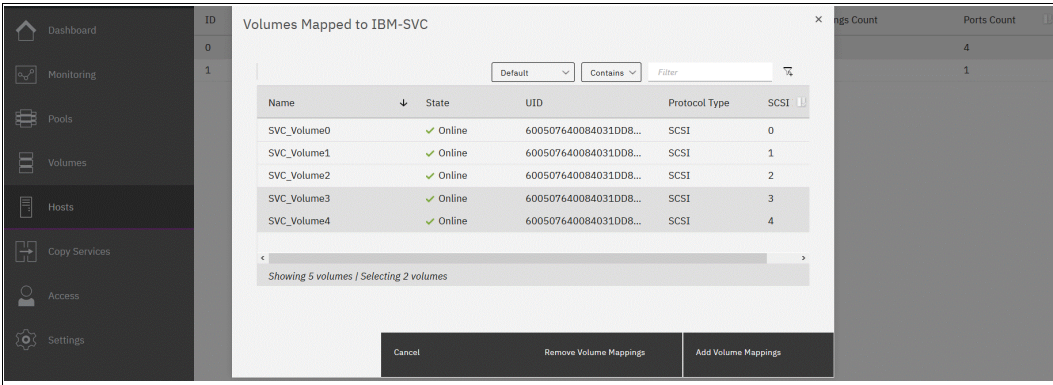

Figure 7-62 Existing shared mappings
2. A window appears displaying all the shared mappings that exist for the selected cluster (see Figure 7-62). From this view, select one or more of the shared mappings to be removed and click **Remove Volume Mappings**.